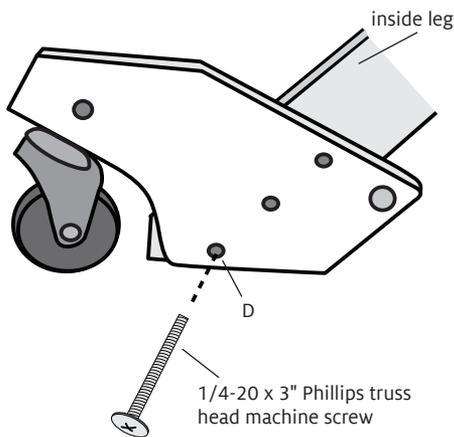

FIGURE 3: CASTER BLOCK AND INSIDE LEG
3. Set a caster block on the outer side of an inside leg, with the caster wheel toward the front and the floor (Figure 3). Line up hole [D] at the **bottom** of the block to hole [A] in the leg. Insert a 1/4-20 x 3" Phillips truss head machine screw through the caster block and the leg. Thread the machine screw into a barrel nut in the treadle support and tighten, using a slotted screwdriver to hold the barrel nut in position. Repeat with a second caster block and the other inside leg.